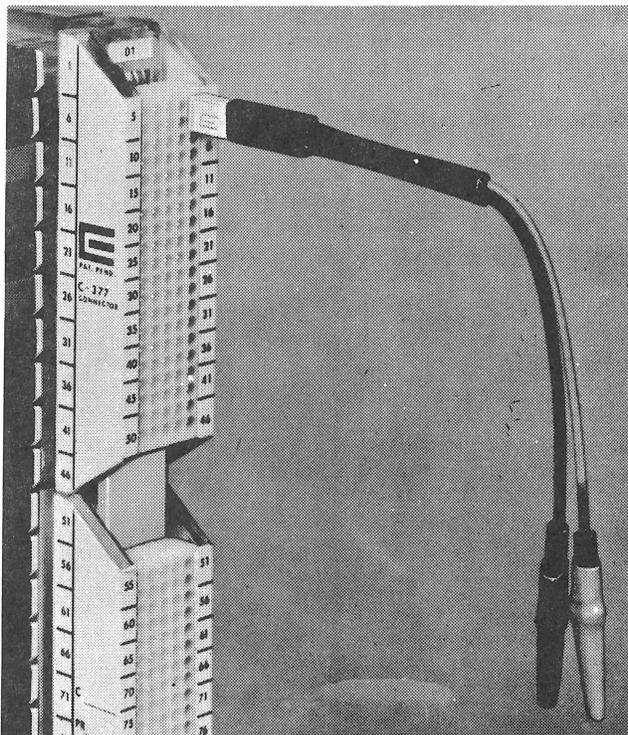

Figure 30. Single Pair Test Cord
14.01 This test cord plugs into the test fields to make tests on the tip and ring lines of a pair (see figure 30). A plug on one end of the cable matches the holes for a pair in the test field. The other end of the test cord is terminated with alligator clips for connection to test equipment. Use the single pair test cord as follows: